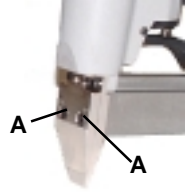

Figure 6
2. Remove the two Lower Guide Mounting Screws (**A**), Figure 6. The Lower Guide and the Stabilizing Shoe can now be removed as an assembly.